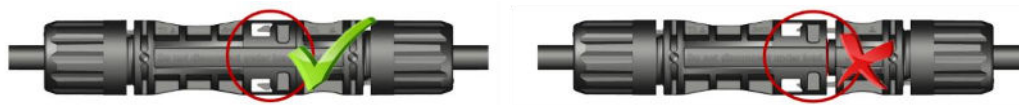

Figure 7 Schematic Diagram of Correct/Incorrect Engagement of Connectors
- p) Before connecting the male and female connectors, ensure that the contacts are free of corrosion, clean, and dry, and check the wiring status. When connecting, insert the male and female connectors until they engage, then gently pull to check if the engagement is secure. The correct/incorrect engagement visual diagram is shown in Figure 7 (for reference only; the actual connectors shall be based on the ones received on-site).